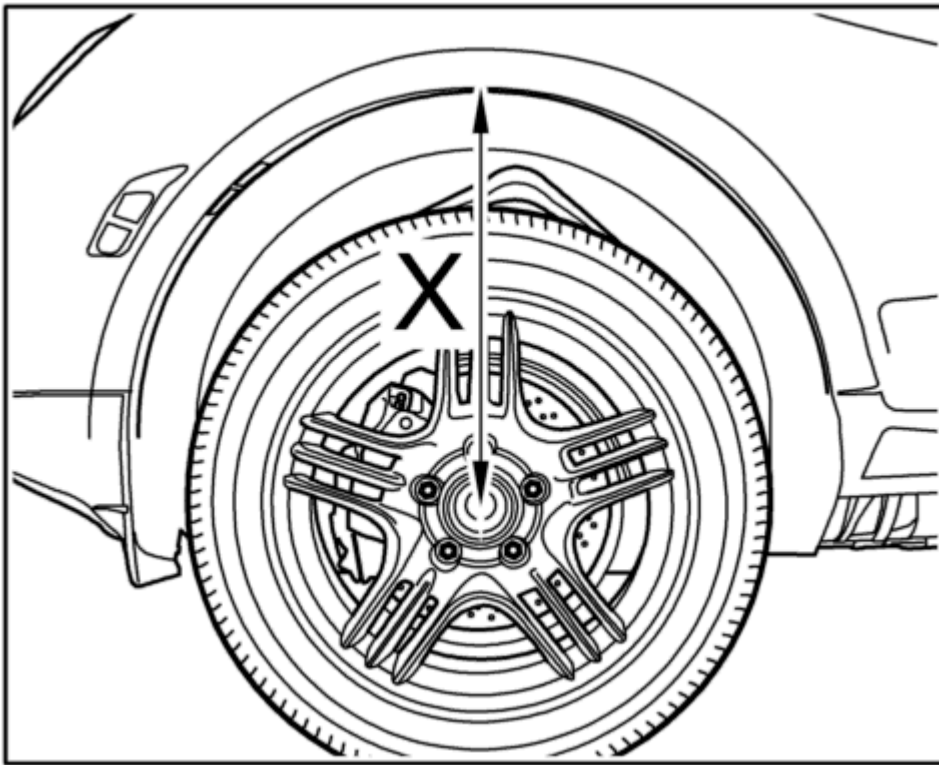

Fig. 96: Entire threaded parts of axle must be tightened in vehicle position (Dimension -X-)
- *The entire threaded parts of the axle must be tightened in vehicle position. Vehicle position means: vehicle standing on the wheels or the wheel suspension being raised using a universal vehicle lift. Dimension -X- , from lower edge of wing to middle of axle 502 mm $\pm$ 10 mm corresponds to vehicle position. See Fig. 96.*